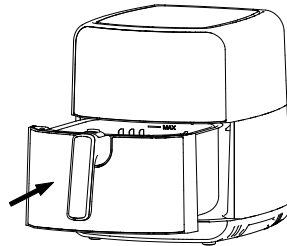

Fig.6
2. Carefully pull the pot out of the Hot-air fryer (Fig.6)